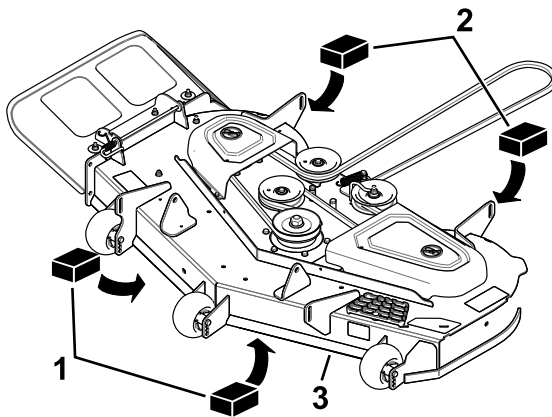

**Figure 61**
4. Carefully rotate the blades so they are facing front to rear (Figure 61).
5. Measure from the tip of the front blade to the flat surface and the tip of the rear blade to the flat surface (Figure 61).